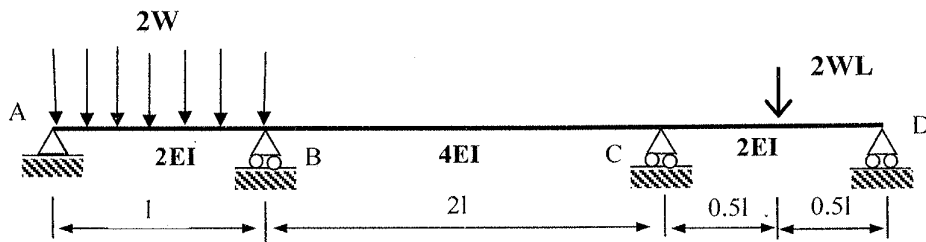

Figure Q5
- (ii) A continuous beam (ABCD) is shown in Figure Q5. Flexural rigidities of members AB and CD are equal to $2EI$ and member BC is $4EI$. Uniformly distributed load ($2W$) is acting on member, AB. There is a concentrated load ($2WL$) in member CD.